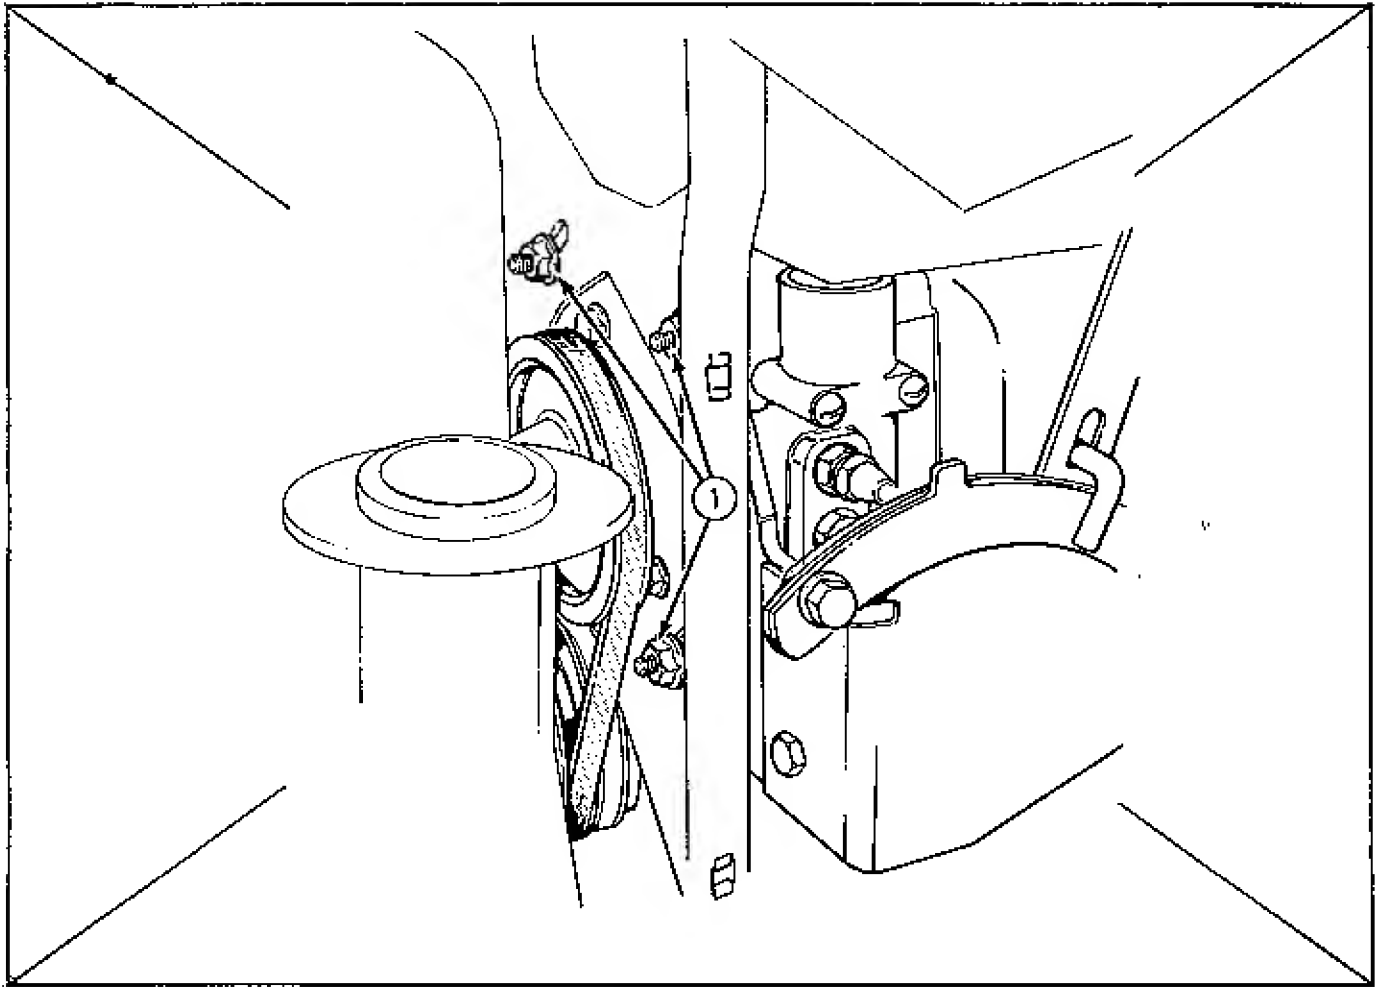

FIGURE 6
- H. Attach the pump and tank assembly to the front panel of the tank support assembly by means of the three Whiz-Lock nuts provided (1, Fig. 6);